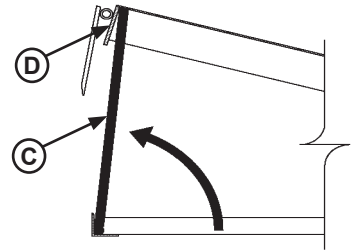

Figure 23
- Lubricate the following areas with light weight machine oil (see Figure 23):
- (A)— Lip hinge area unless equipped with grease fittings (apply oil to the top of the entire length of lip hinge when platform is at the full below-dock position and lip is folded).
- (D)— Platform hinge area (apply oil to top of all platform hinges when platform is at the full below-dock position).
- (C)— Lip link pivots.
- (B)— Lip maintenance prop pivot.
- (G)— Safety leg linkage pivots.
- (E)— Lip assist pin.